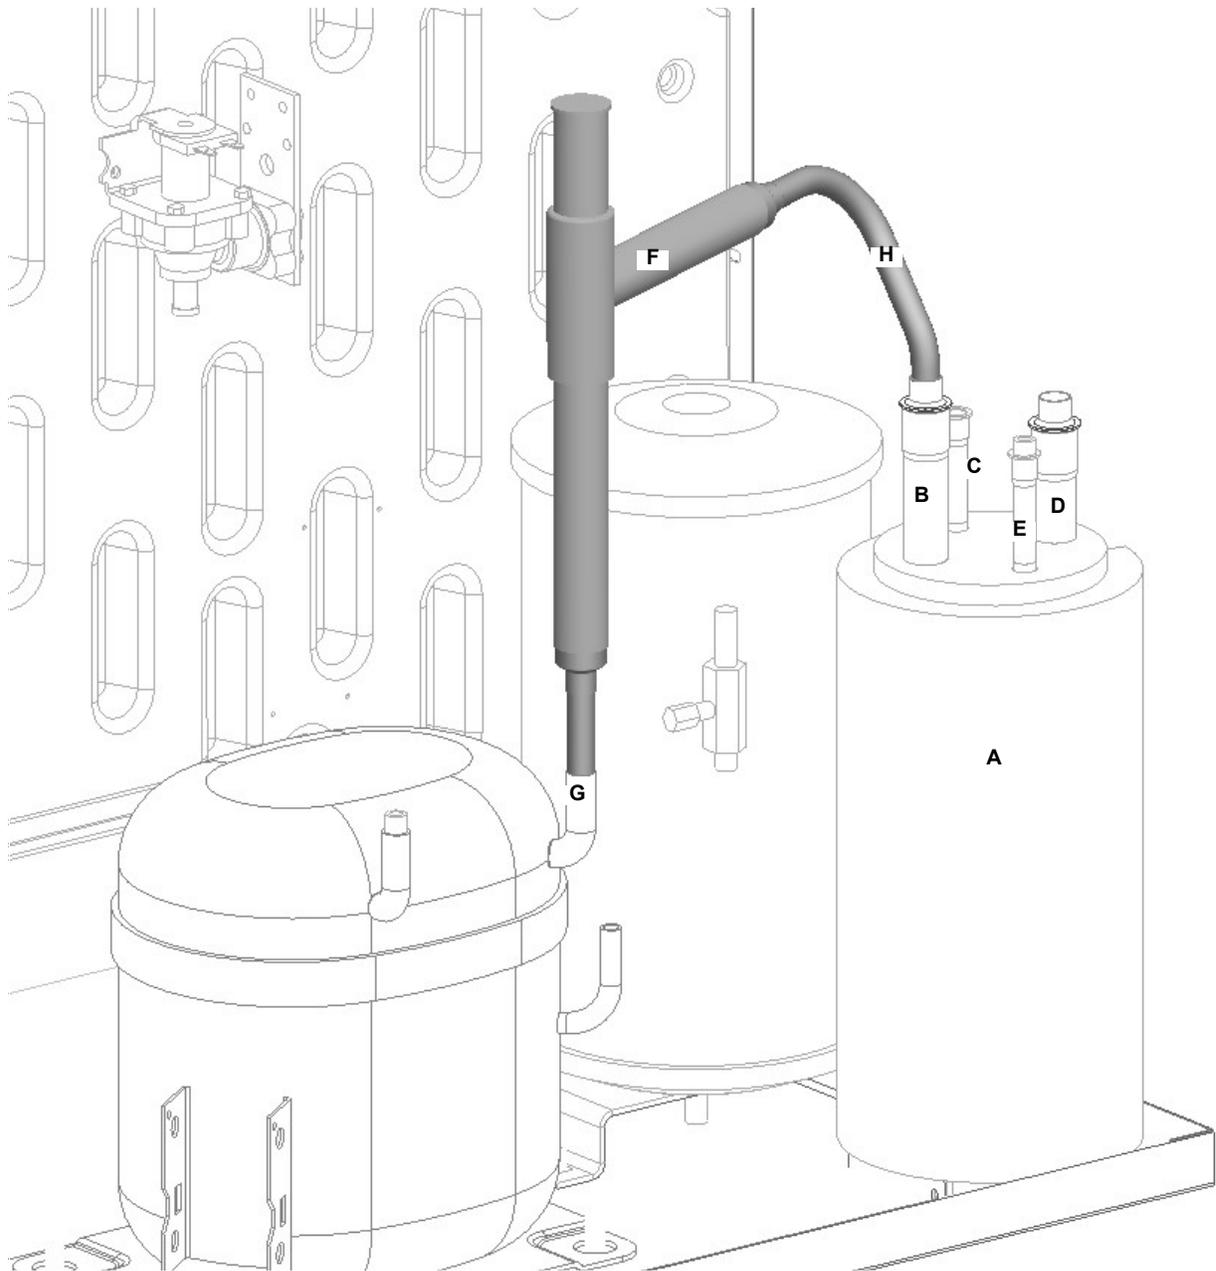
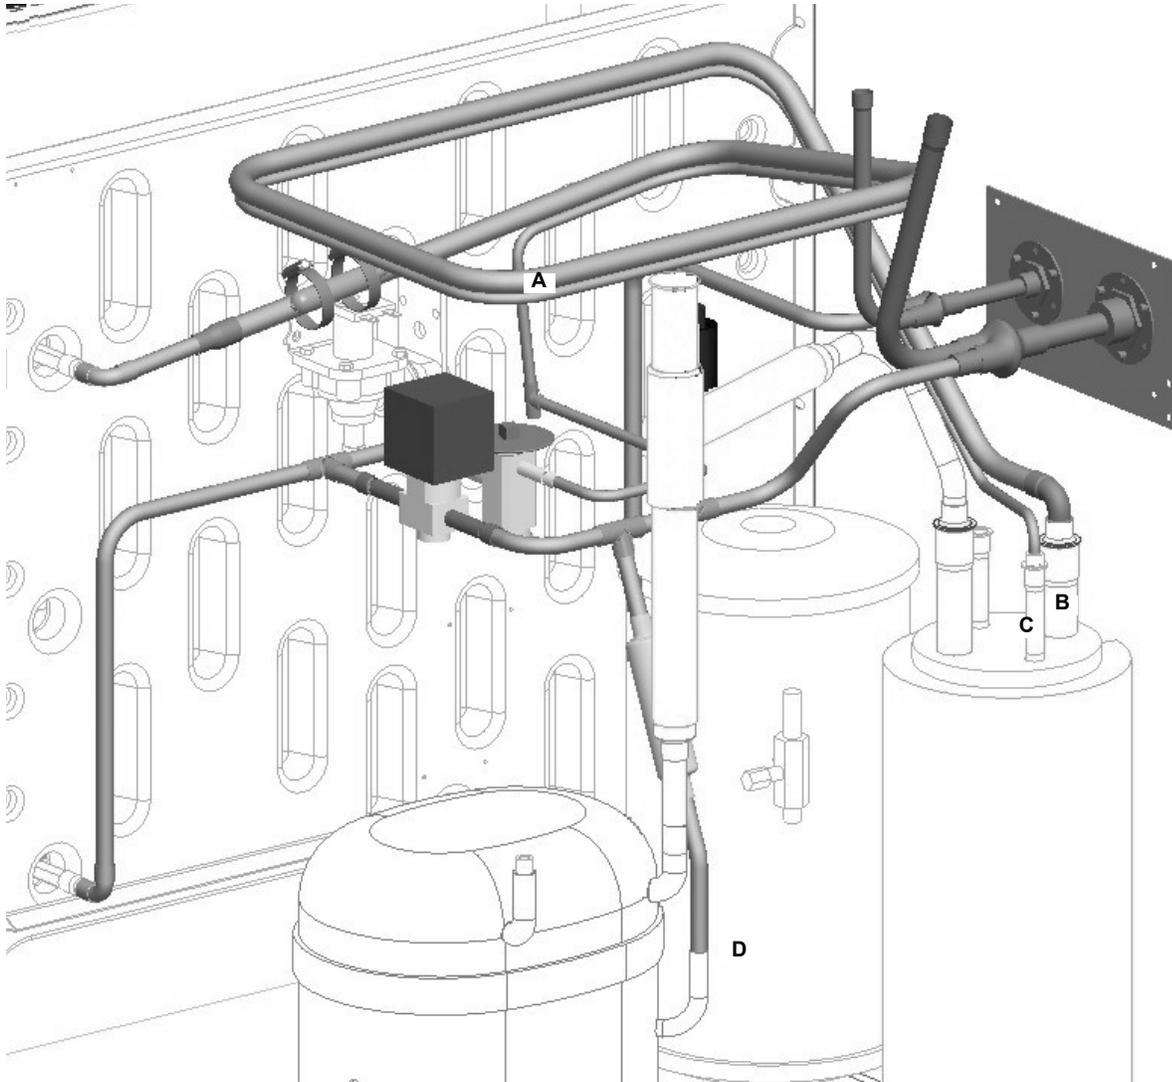

Figure 27.
Figure 28.
28. Place the foamed accumulator assembly (A) orienting the suction line outlet (D) to the REAR end of the unit. (Figure 27).
29. Place the Compressor to Accumulator Suction Line (F) in the unit. Place in compressor suction port (G) and accumulator suction outlet port (B).
\*\* Add the 10" length of 3/4" ID insulation to this line (H) on the accumulator end (Figure 27).
30. Place the Heat Exchange Suction Line (A) in the unit. This assembly is the largest, and contains the expansion valve and hot gas solenoid.
Connect the tubing to the suction inlet (B) and liquid outlet (C) on the accumulator, the evaporator inlet and outlet, the rear port of the receiver, and the compressor discharge (D) (Figure 28).